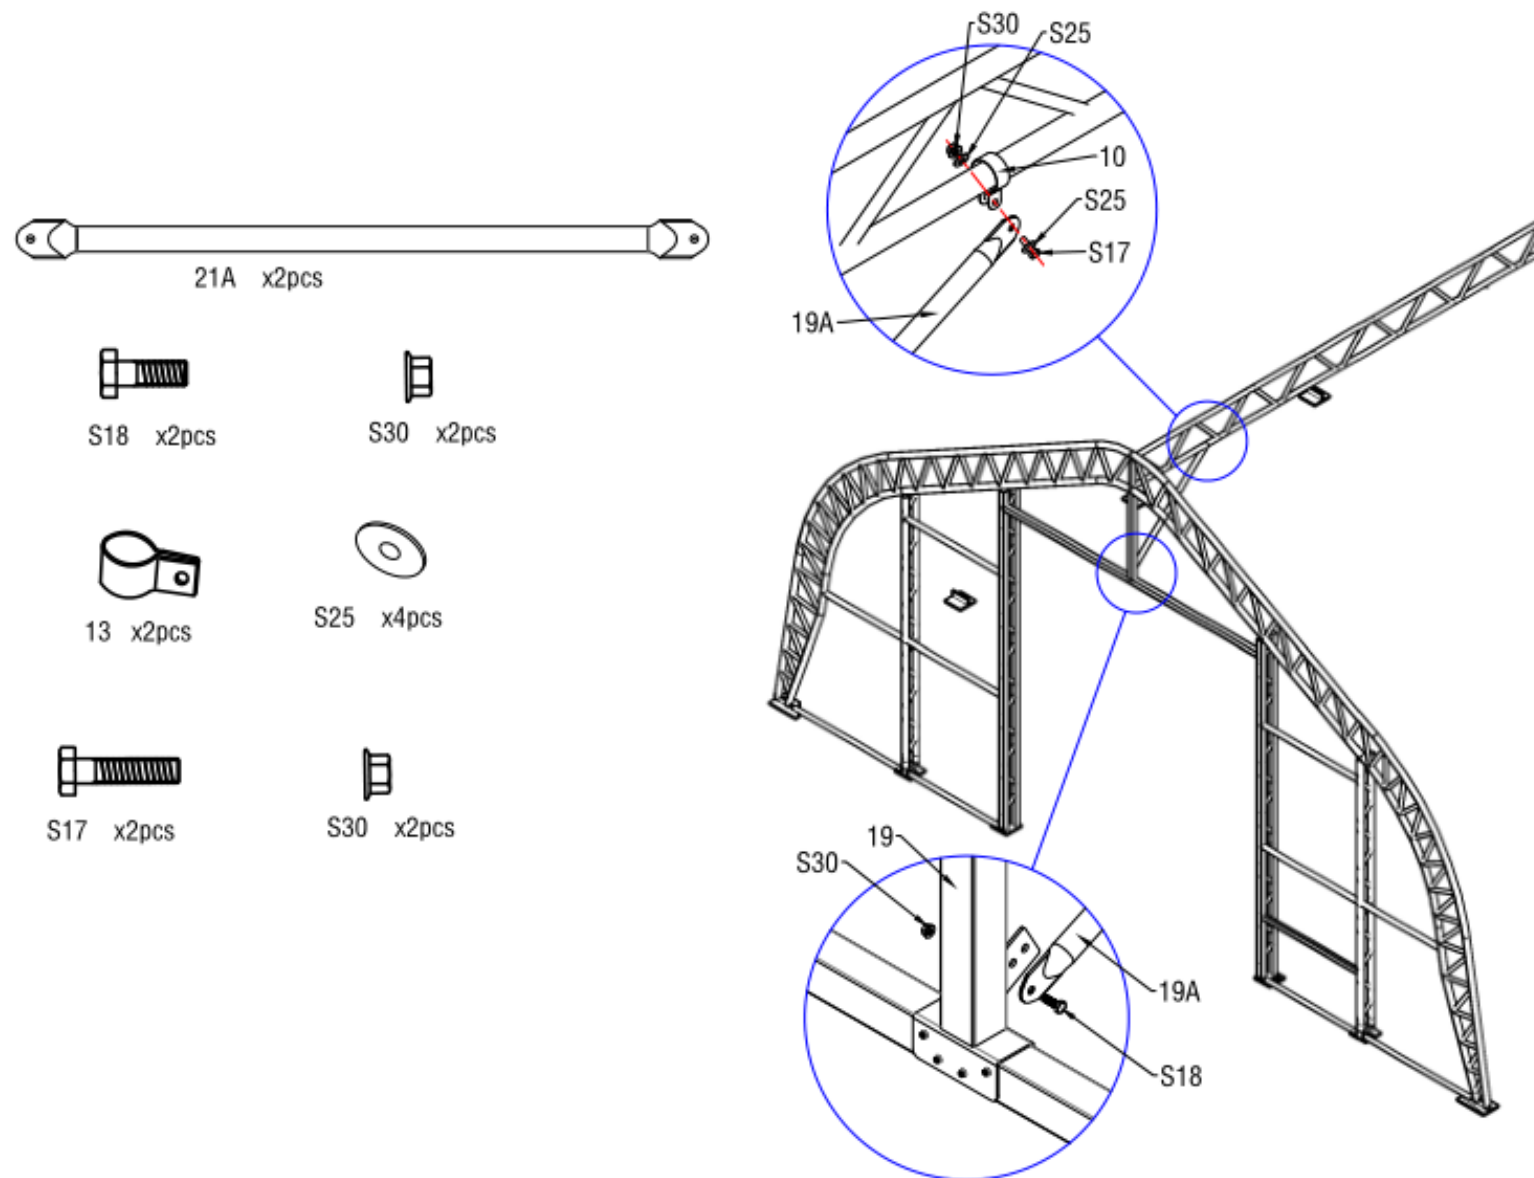

Figure 15
2. Fix clips (No. 13) on Double Trussed Purlins (No. 8) and install the Diagonal Support Tube For door beam (No. 21A) on clips as figure 15 shows. Please connect the Diagonal Support Tube For door beam (No. 21A) between door frame and Double Trussed Purlins (No. 6) by using Screw M10x30 (No. S18) and Screw M10x50 (No. S17) with plain washer M10 (No. S25).